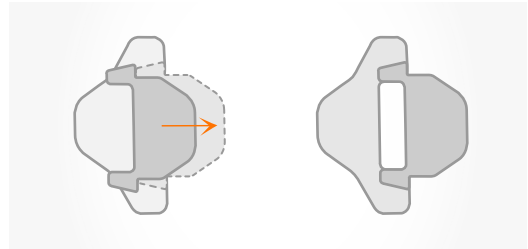
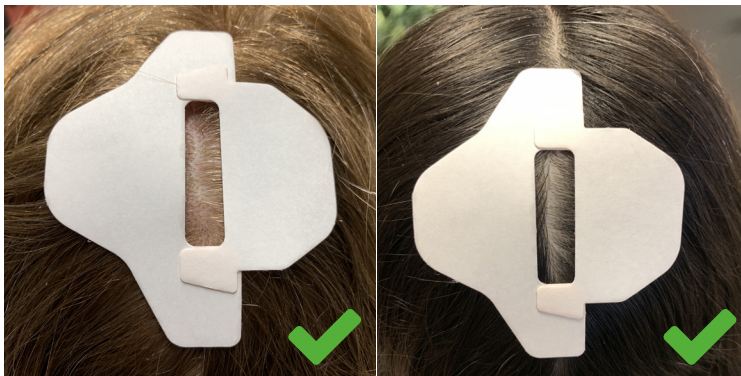

Figure 9: HairLock Part 1 and 2 correctly applied.
Figure 10.a: Parting in hair, with HairLock correctly applied: a strip of skin is exposed in the Hairlock slot.
- Make a vertical parting line in the hair and apply the self-adhesive HairLock, as it helps to gently keep surrounding hair out of the way. First apply Hairlock part 1 (see Figure 8), and then apply part 2 (see Figure 9). If HairLock part 1 and 2 are correctly applied on the head, a strip of skin is exposed in the slot between HairLock part 1 and 2 (see Figure 10.a.).
Figure 10.b: HairLock not correctly applied, there is no parting in the hair, and there is no skin exposed. Furthermore, HairLock part 2 is not correctly aligned.